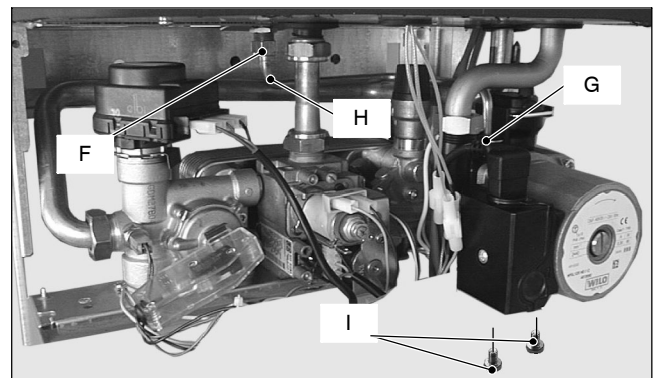

Fig. 3
- 9 Unscrew the two screws *I* that hold the pump on the frame (Fig. 3) and remove the pump towards the front of the boiler.